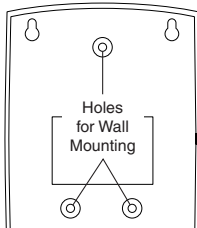

Figure 6
- Use chime holes as a template (see Figure 6). Drill three 7/32" diameter pilot holes for wall anchors (provided) and insert anchors.